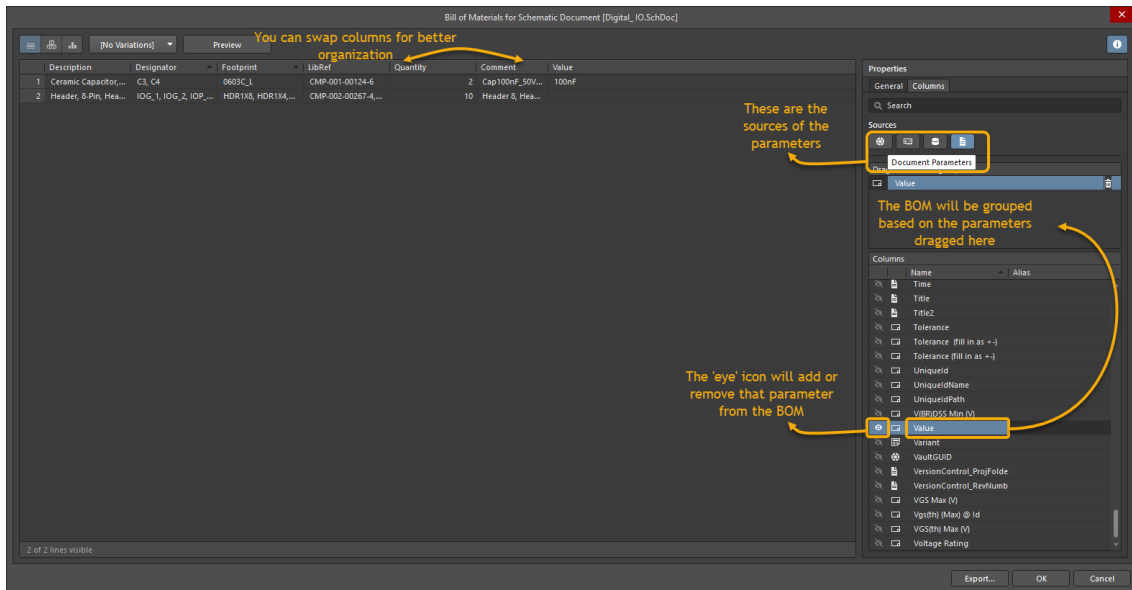

Figure 3. BOM Configuration
12. To group components based on parameters, the *Columns* tab of the Properties section will allow you to drag parameters into the *Grouped Columns* pane as shown in Figure 3.
13. To control which parameters are available in the Bill of Materials, you can enable or disable the options under the *Sources* pane. If you hover over the icons under the *Sources* tab, it will show you where the parameters originate from as shown in Figure 3.
14. Component parameters can be added or removed from your Bill of Materials, by selecting the  eye icon in the Columns pane. Columns can also be re-arranged by dragging their headers to the intended locations. An example of this is shown in Figure 3.